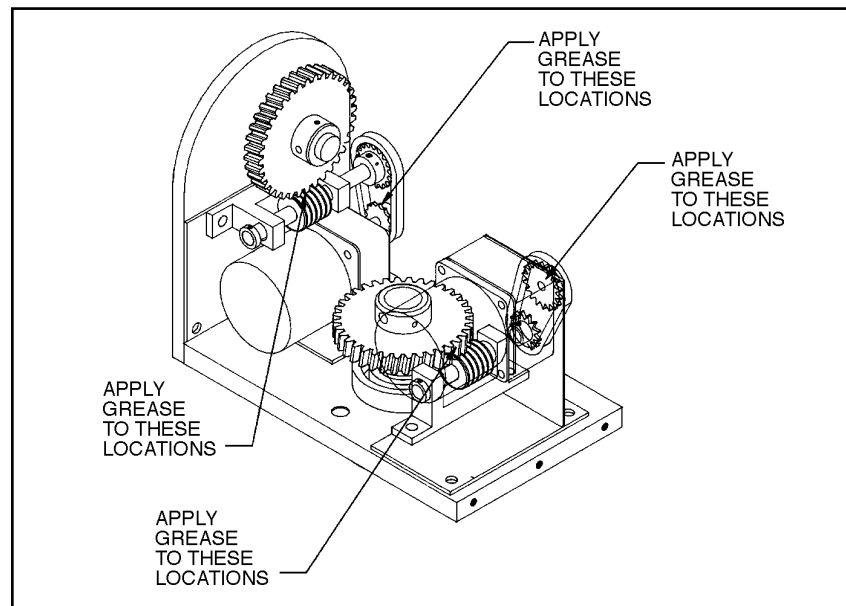

Figure 1. Servicing the Pan/Tilt
1. Liberally apply grease to the pan and tilt gears, chains, and sprockets (refer to Figure 1).